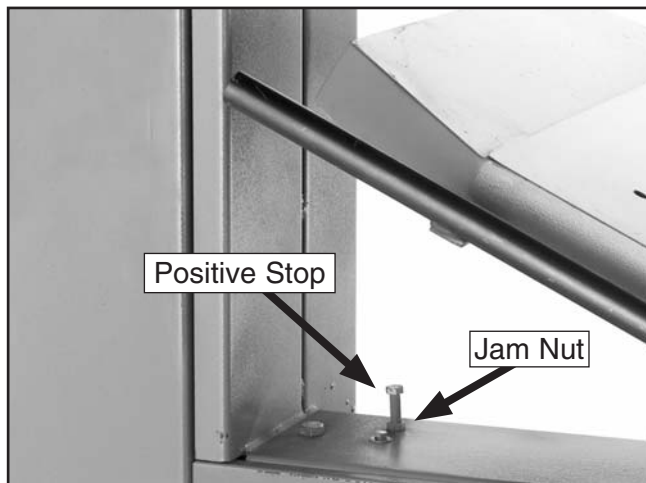

Figure 16. Installed positive stop bolt.
- Using a $\frac{9}{16}$ " wrench, loosen the jam nut that locks the positive stop bolt in place (**Figure 16**).